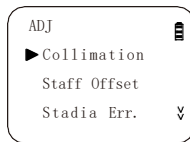

Fig 21
- (2) First set instrument at Point 1. Press and hold Meas. Button and press Power button to enter adjustment mode(Figure 21). Press MEAS. button then SET button to enter Collimation